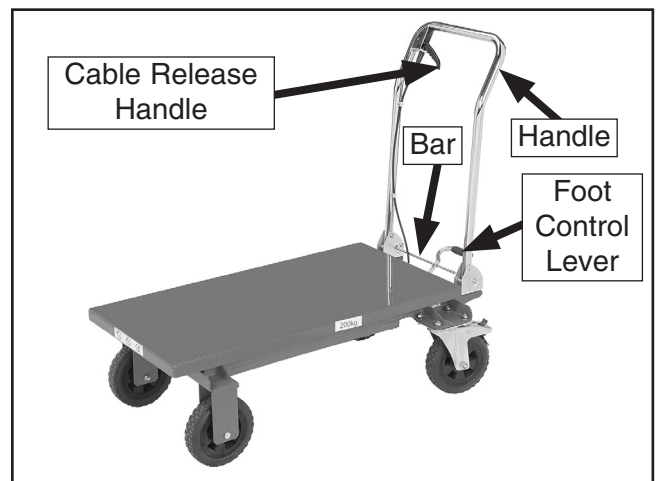

Figure 3. Handle raised.
2. Raise the handle to the operating position (**Figure 3**).
1. To raise the table, pump the foot control lever; to lower the table, squeeze the cable release handle (**Figure 3**).
3. To lower the handle for storage, remove the foot control lever, press the bar down (**Figure 3**), and push the handle down.